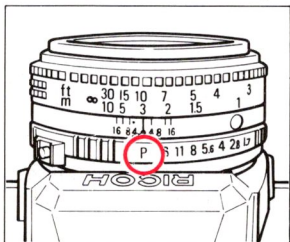

Fig. 9
2. Set it to the locking "P" position as shown for programmed automatic exposure photography. (Fig. 9)